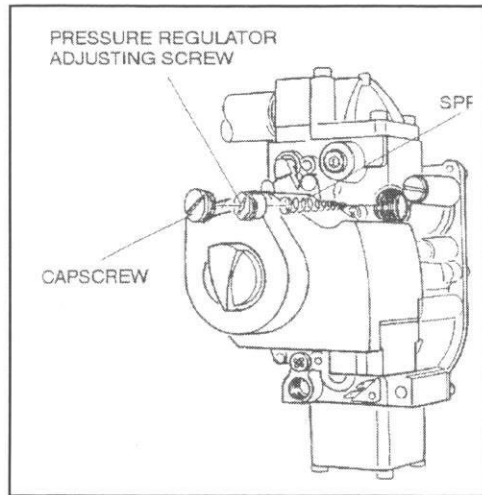

FIG 4.
6. Remove the pressure regulator cap screw from the gas control, fig.4.
7. Remove the pressure regulator adjusting screw, fig.4.
8. Remove the stainless steel spring, fig.4.
9. Install the red spring contained in the Honeywell LP gas conversion kit into the gas control, fig.4.
11. Turn six (6) complete turns clockwise . This will supply a preliminary pressure of approximately 10.0 inches water column. The setting needs to be checked with a manometer after conversion of the manifold is completed.